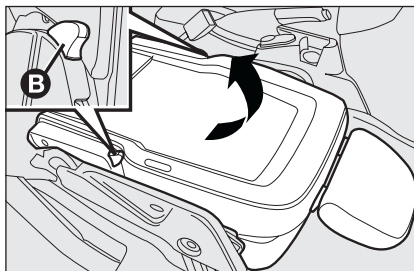

fig. 26
- ☐ grab the levers **B**-fig. 26 and lift the backrest further more up.